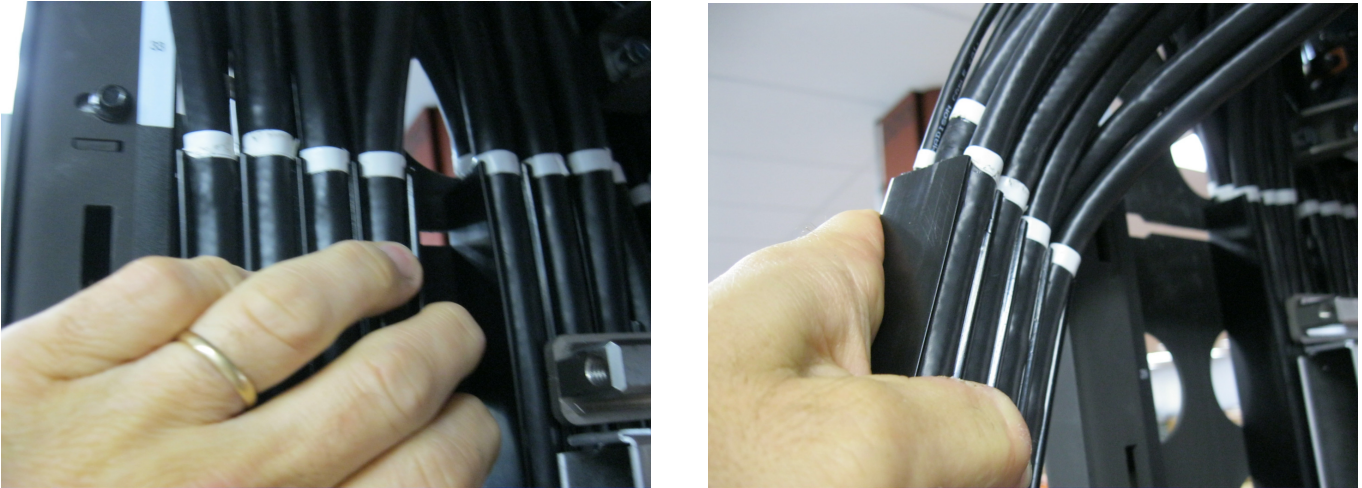

Figure 12 DCCA Power Cable Raceway Removal
STEP 14 Once the UPIC raceway has been removed, slide the first DCCA Power Cable raceway forward until it disengages from the mounting slots. It can then be removed from the rack. Repeat this process until the desired communications cable is located (see photos in Figure 12 below).
STEP 16 On the new communications cable, verify that the plug location labels on the cable are located on the appropriate ends of the cable (DCCA or BPE end). Align the white stripe on the cable jacket with the top surface of the raceway and stripes on adjacent cables. Starting from the white stripe, firmly press the cable into the raceway finger working downward until the cable is fully inserted. All cables in the raceway finger must be nested in their proper position. Once the two communications cables are placed in the base of the raceway, press the first DCCA Power Cable into the raceway above them. There can be no twists or kinks in any of the cables or they will not fully nest within the fingers. The second DCCA Power Cable can then be pressed into the raceway over the first. All of the white indicator stripes on the cable jackets should be aligned per Figure 12 and Figure 13. (refer to figure 2 for proper cable placement within the raceway).